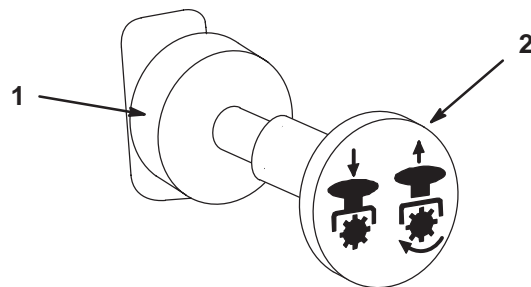

Figure 19
- Pull out on the power take off (PTO) switch to engage (Fig. 19).
1. To disengage push the PTO switch to the off position (Fig. 19).